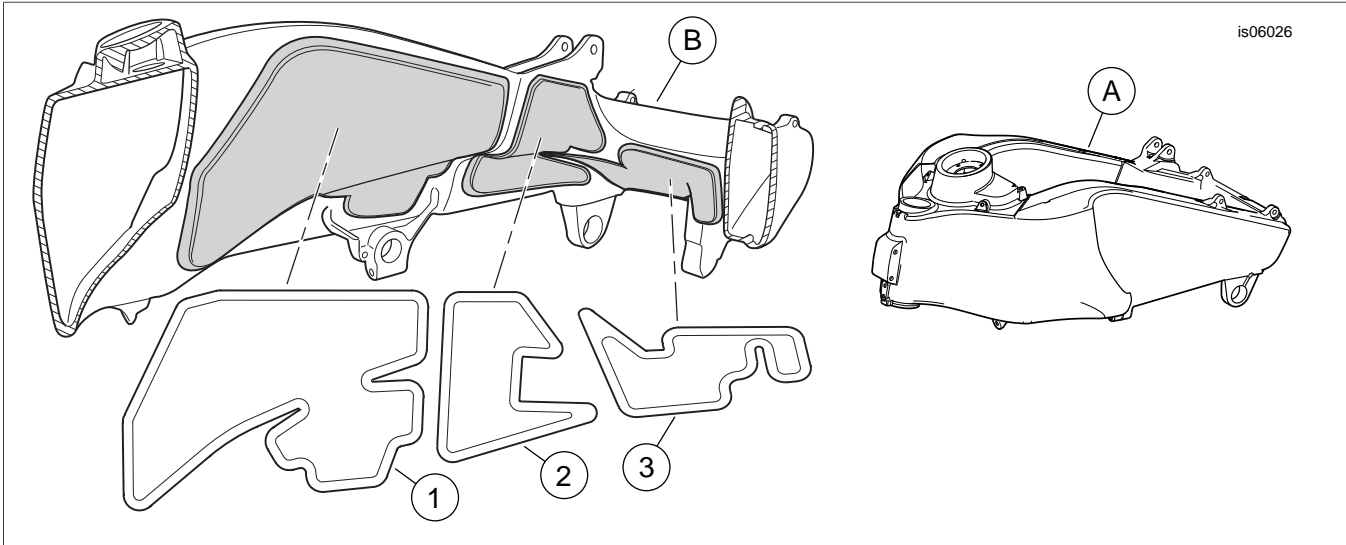

Figure 1. Buell 1125 Model Frame Insulation Kit
See Figure 1 and Table 1.
2. See Figure 1. If installed, mark the position of each OE insulation pad on the inboard wall of the frame/tank. Remove the OE insulation pads and all dirt and adhesive residue.